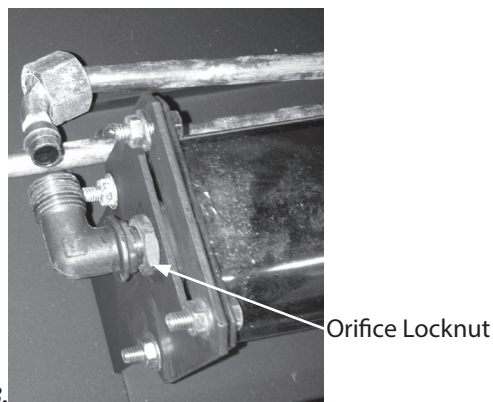

Figure 3.
**Step 7:** Loosen the orifice locknut (Figure 3, 13 mm) and unscrew the NG burner orifice from each of the burners
**Step 8:** Screw an LP orifice into each burner until the orifice is aligned with the supply tube. See Figure 3.